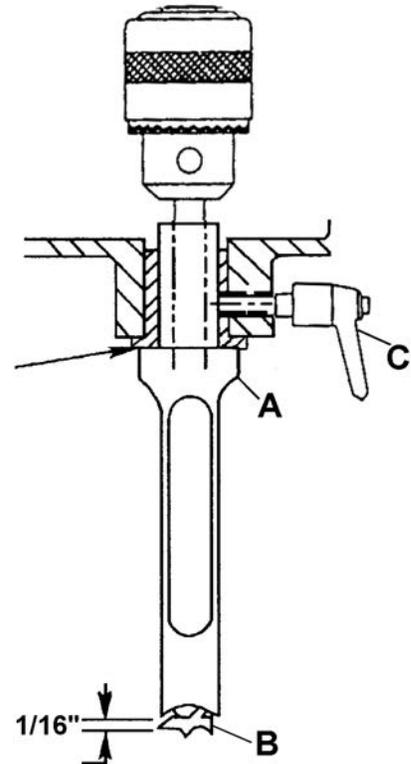

FIGURE 7
Push the chisel (A) Fig.7 up as far as possible into head, then lower chisel approximately 1/16". This setting is only temporary, the chisel will need to be repositioned against the head once the bit is secured in place. Tighten lock knob (C) to hold chisel in position. Push the drill bit (B) up through the chisel opening making sure that drill bit bottoms out in chisel before bottoming out in chuck.